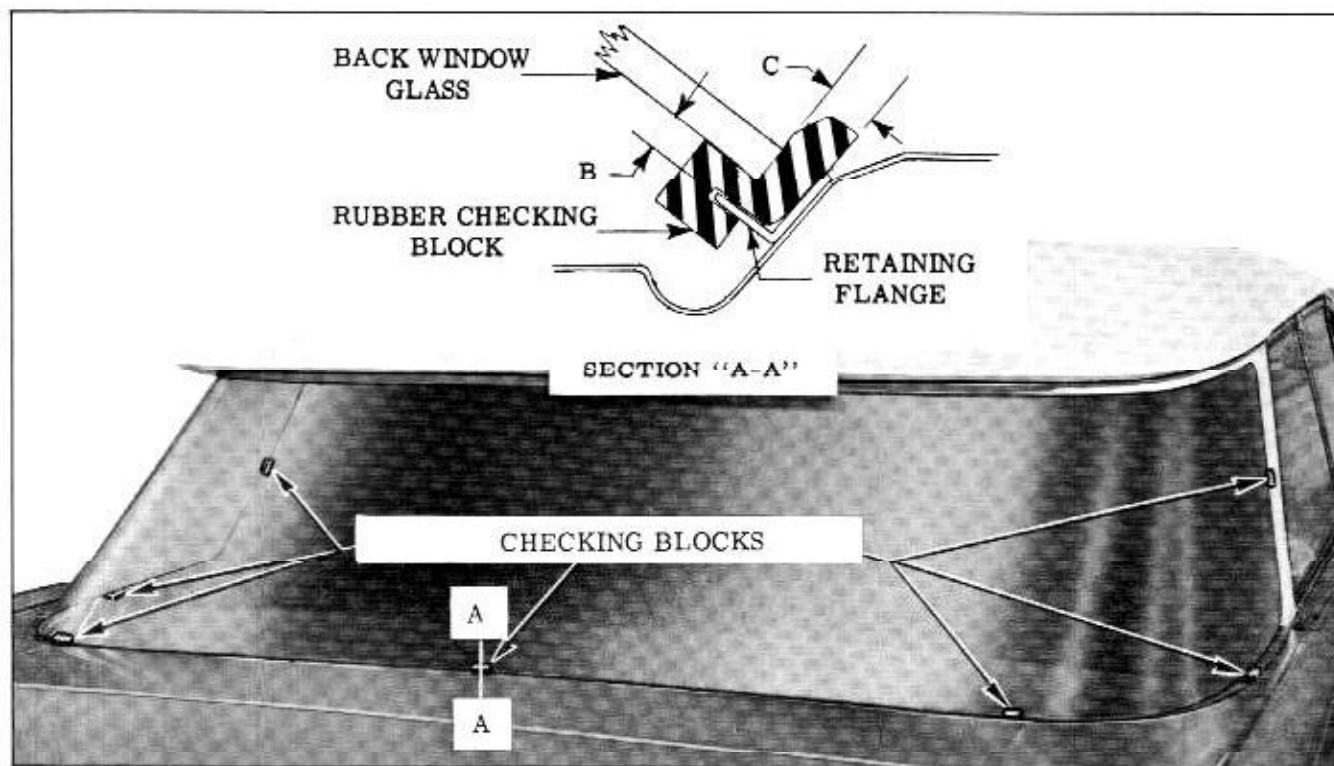

Fig. 17-85 Checking Back Window Opening (3839)
3. Install Windshield Check Blocks J-8942 over pinchweld flange at locations shown in Fig. 17-85.
5. With back window glass supported and centered in the opening by checking blocks, check relationship of glass to body opening around entire perimeter of glass. The distance between the inside surface of the glass and the pinchweld flange, indicated at "B" in Section "A-A", and between the outer edge of the glass and body metal, indicated at "C" in Section "A-A", should be uniform along the bottom and at the sides of the glass and body opening. (Fig. 17-85) Any irregularities should be marked and re-formed. The distance between the outer edge of the glass and body metal, indicated at "C" in Section "A-A", increases at the upper corners and along the top of the opening.